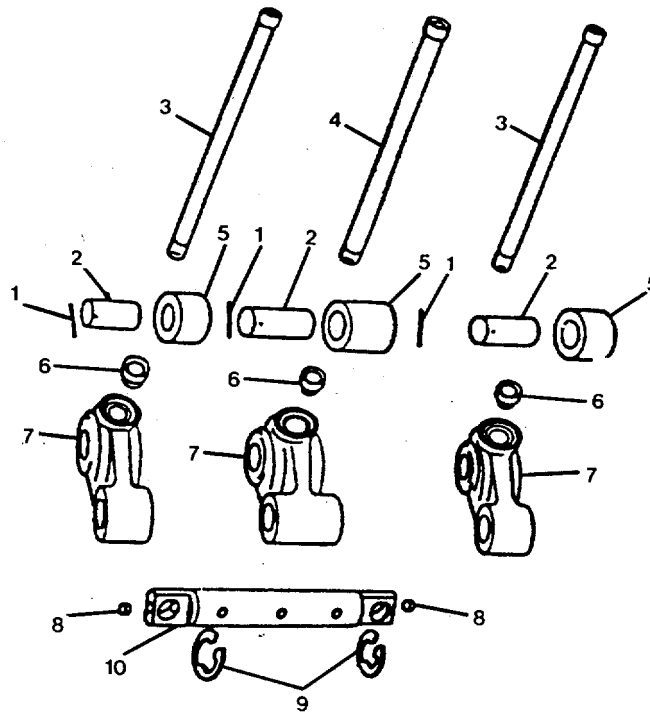
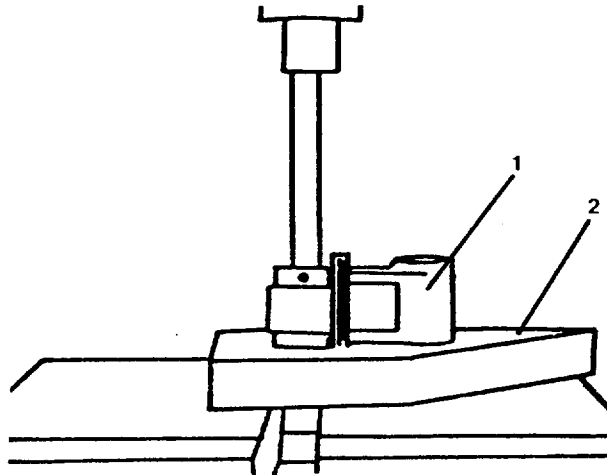
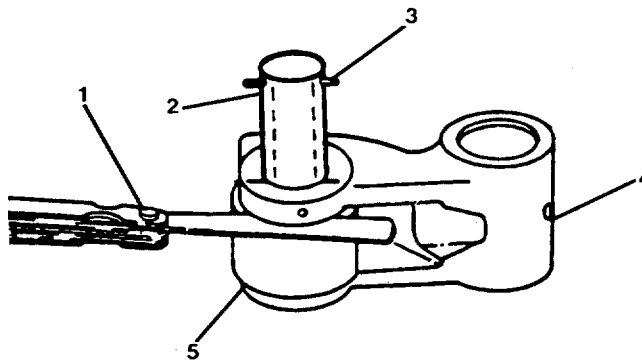

FIGURE 4-39. Cam Followers. Cover and Push Rods/Tube.
FIGURE 4-40. Cam Roller Pin Removal Socket.
FIGURE 4-42. Cam Roller Pin Installation.
- a. Remove push rods (3 and 4, FIG. 4-39) after removing rocker levers (para. 2-30). Lift push rods straight up to remove.
- e. Clean the cam follower assembly (3) and capscrews (1) with solvent. Check the assembly for obvious damage. Verify the shaft (10, FIG. 4-39) rotates easily.
- Remove retaining rings (9, FIG. 4-39) that hold the cam followers (7) on the shaft (10).
- Remove cam followers (7) and cup plugs (8) from the shaft (10). Clean the parts in solvent.
- c. Remove roll pins (1, FIG. 4-39) and position cam follower assembly (1, FIG. 4-40) on roller pin block (2). Press out the cam roller pin (2, FIG. 4-39). Remove rollers (5) from cam followers (7).
- a. Measure the outside diameter of the shaft (10, FIG. 4-39). If it is not between 0.8730 inch (22.174 mm) and 0.8740 inch (22.200 mm) or is scored or pitted, replace.
- b. Check the inside diameter of the cam follower (7) for scratches, pitting, or scoring. Measure with an inside micrometer. If it is not between 0.8750 inch (22.225 mm) and 0.887 inch (22.276 mm), replace.
- c. Use compressed air. Ensure cam follower (7) oil holes are not blocked.
- d. Check socket (6) for damage. If the socket must be replaced, perform the following:
- f. Check the cam roller (5, FIG. 4-39) width, outside diameter and bore inside diameter. Verify they are within the following specifications.
- g. Roll pushrods (3 and 4, FIG. 4-39) across a level surface to check for straightness. Check both ends of rod for scratches and abrasions. Replace as required.
- a. Use a suitable arbor press and a roller pin block to assemble the rollers 2 (5, FIG. 4-39) and pin (2) as follows:
- (1) Position the roller (5), pin (2), and cam follower (7) in the press.
- (2) Align the oil passage and roll pin holes in the cam follower (7) and roller (5).
- (3) Select the proper thickness feeler gauges (1, FIG. 4-42). Place the gauge (1) between the roller (5) and cam follower (4) for support while pressing the pin (2) into the lever.
- b. Assemble the cam followers (7, FIG. 4-39) onto the shaft (10). Secure the assembly with retainer rings (9).